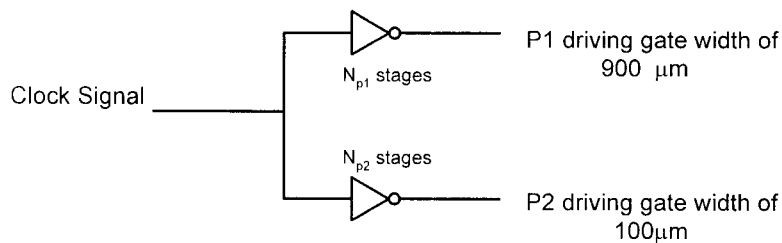

Figure 4.2
- b) In a $0.25\mu\text{m}$ CMOS process, the widths of a minimum size inverter p and n transistors are $0.5\mu\text{m}$ and $0.25\mu\text{m}$ respectively. The unit delay is given to be 30ps. The circuit contains two separate clock paths P1 and P2 as shown in *Figure 4.2*. The total gate widths seen by the two paths are $900\mu\text{m}$ and $100\mu\text{m}$ respectively.
- (i) Using the method of logical effort, or otherwise, estimate the clock skews between the paths if the inverters shown in *Figure 4.2* are minimum size.